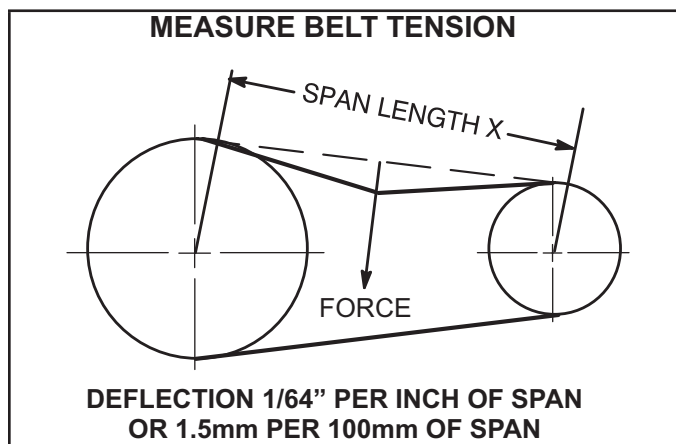

FIGURE 12
- 1 - Measure span length X. See FIGURE 12.
- 2 - Apply perpendicular force to center of span (X) with enough pressure to deflect belt 1/64" for every inch of span length or 1.5mm per 100mm of span length.